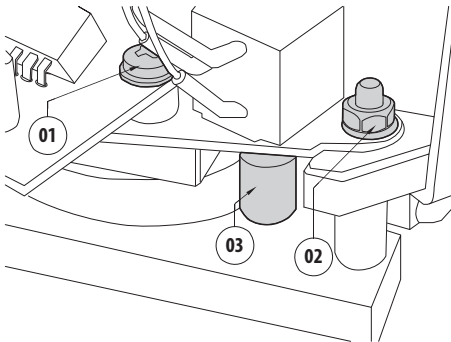
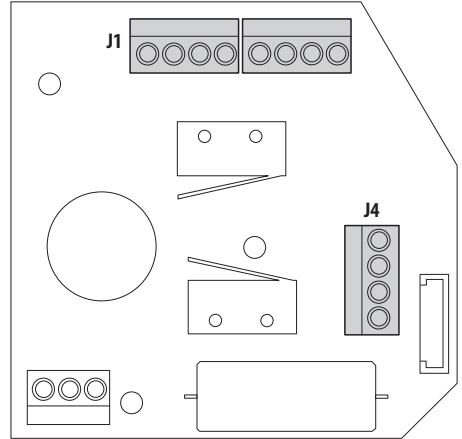

Fig. 3
Fig. 4
4. Loosen the fastening screw (01) and the nut (02) on the potentiometer holder bar of horizontal movement (Fig. 3, page 6).
5. Release the pinion (03) from the gear.
6. Connect an ohmmeter between the Vcc and Pan contacts of terminal J4 (Fig. 4, page 6). Turn the potentiometer shaft until the value of approx.  $1875\Omega$  is measured.
7. Re-position the potentiometer with the pinion (03).
8. Tighten the fastening screw (01) and the nut (02) ( Fig. 3, page 6).
9. Repeat the same operation with vertical movement measuring the ohmic value between the Vcc and Tilt contacts on terminal J4 (Fig. 4, page 6).
Identify on the connector board the terminal for Pan & Tilt connection to the command units (J1) (Fig. 4, page 6).
Identify on the connector board the terminal for potentiometer connection (J4) (Fig. 4, page 6).